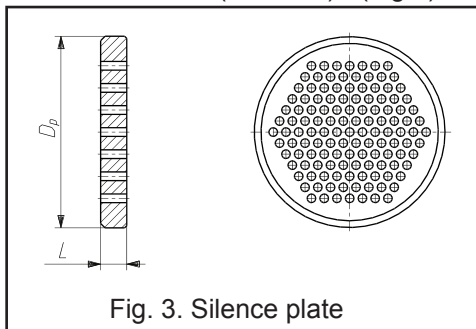

Fig. 3. Silence plate
- silencer plates on valve outlet and/or inside of reduction joint (Fig. 3, 4 and Table 14)